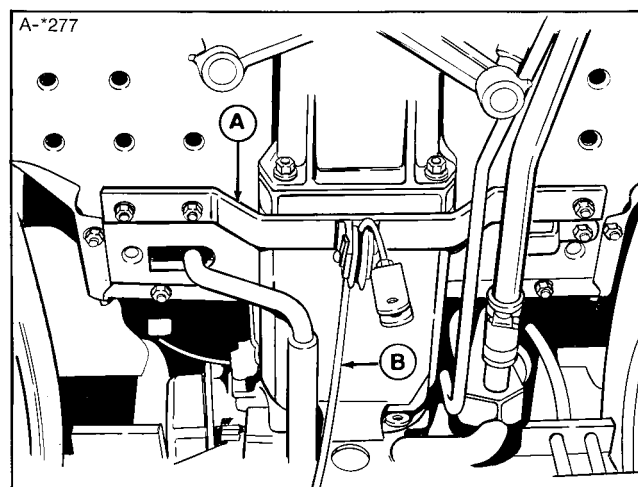

Figure 2. Pulley Support Bracket Installed
3. Use the four capscrews (D), washers (C), lockwashers (B) and nuts (A) to attach bracket (K) to bottom of tractor. the bracket is shown installed in figure 2. Insert capscrews from top.
5. Route the cable (B, figure 2) to the rear of the tractor.